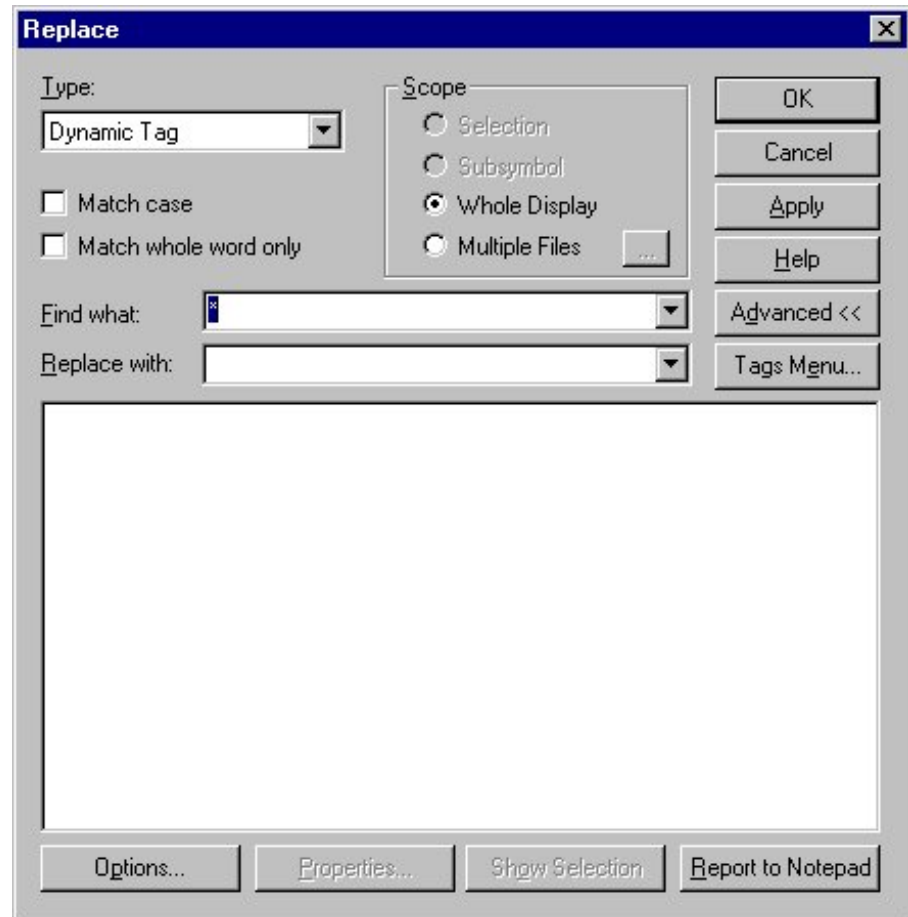

Figure 6-3: Replace Dialog Box
1. On the Edit menu, select Replace. The Replace dialog box appears (Figure 6-3).